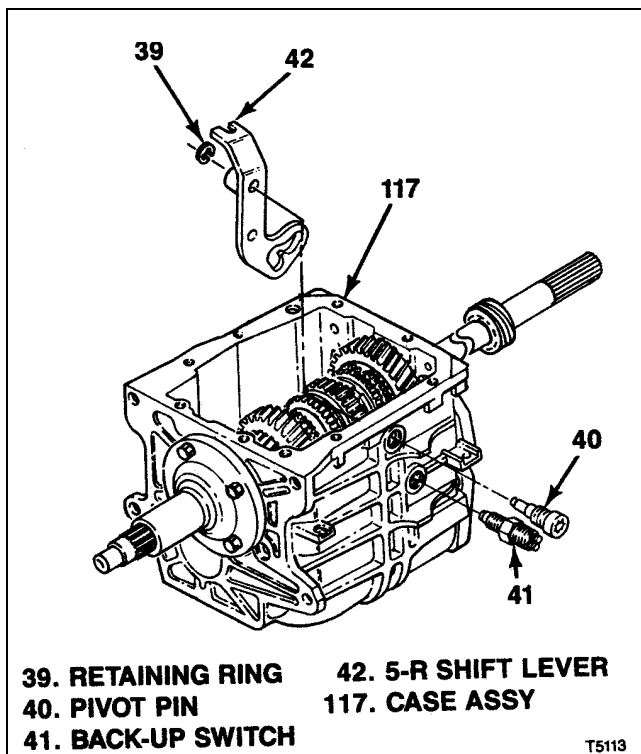

Figure 6-14. T5 WC 5-R Shift Lever
**6-16. INSTALLATION OF T5 WC 5-R SHIFT LEVER** (see figure 6-14):